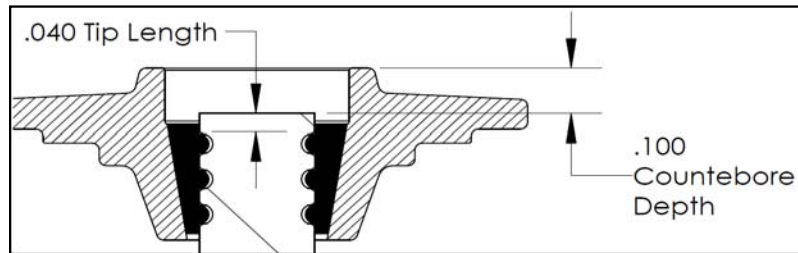

Figure 1) Installation assembly after valve tip modifications.
**Note 2: MODIFICATION NECESSARY.** KPMI recommends roughly 0.100" of shim counterbore depth in the retainer. This distance is measured prior to the installation of the rocker shim, from the tip of the valve to the top surface of the retainer. To achieve this measurement, **the valve is intended to be "tipped" / shortened by 0.035"** (See Figure 1, page 2) Note: removing .035" should leave roughly .040" of tip length above the last groove on an OEM style groove. KPMI doesn't recommend less than .040" of tip length.
1. Stem Protrusion is measured from the tip of the valve stem to the cylinder head. See Figure 1.
2. Outer spring installed height is measured where the outer spring contacts the Retainer and Basewasher when assembled (See Figure 1).
3. Inner spring installed height is measured where the inner spring contacts the Retainer and Basewasher when assembled (See Figure 1).
4. Retainer-to-Guide clearance is the distance between the Valve Guide (w/o the seal) and the bottom of the Retainer, with the Valve in the closed position (See Figure 1 and Notes 3 & 4).
5. Retainer-to-Seal clearance is the distance between the Valve Stem Seal and the bottom of the Retainer, with the Valve in the closed position (See Figure 1 and Notes 3 & 4).